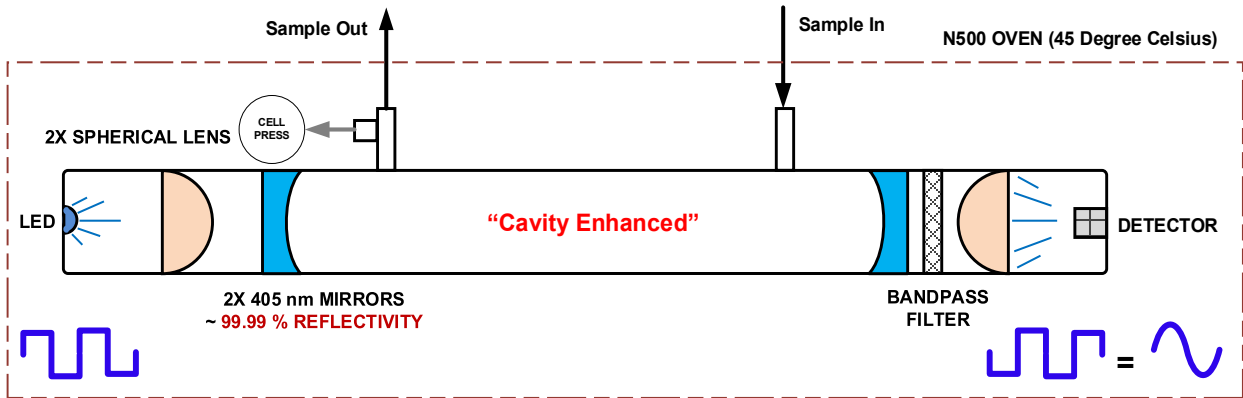

Figure 6-1. N500 Optical Absorption Cell
The CAPS method employed in the N500 is unique in that it applies this fundamental optical absorption law in the frequency domain, rather than using relative changes in light intensity as the primary signal. Ultraviolet light (UV) from the modulating high intensity LED enters a near confocal optical cell (Figure 6-1) through the rear of mirror A. The intensity of the light, as observed by the detector, which is also modulating at a slightly different frequency, located behind Mirror B, builds exponentially in the cell while the LED is ON. The opposite is true when the LED is OFF. Because both mirrors are highly reflective at 405 nm, a prominent absorption band for NO₂, the light takes a considerable amount of time to plateau in the absence of the absorbing gas. However, when NO₂ is present, the mean path length traveled by the light is significantly reduced. This has two effects on the observed intensity as measured by the detector: